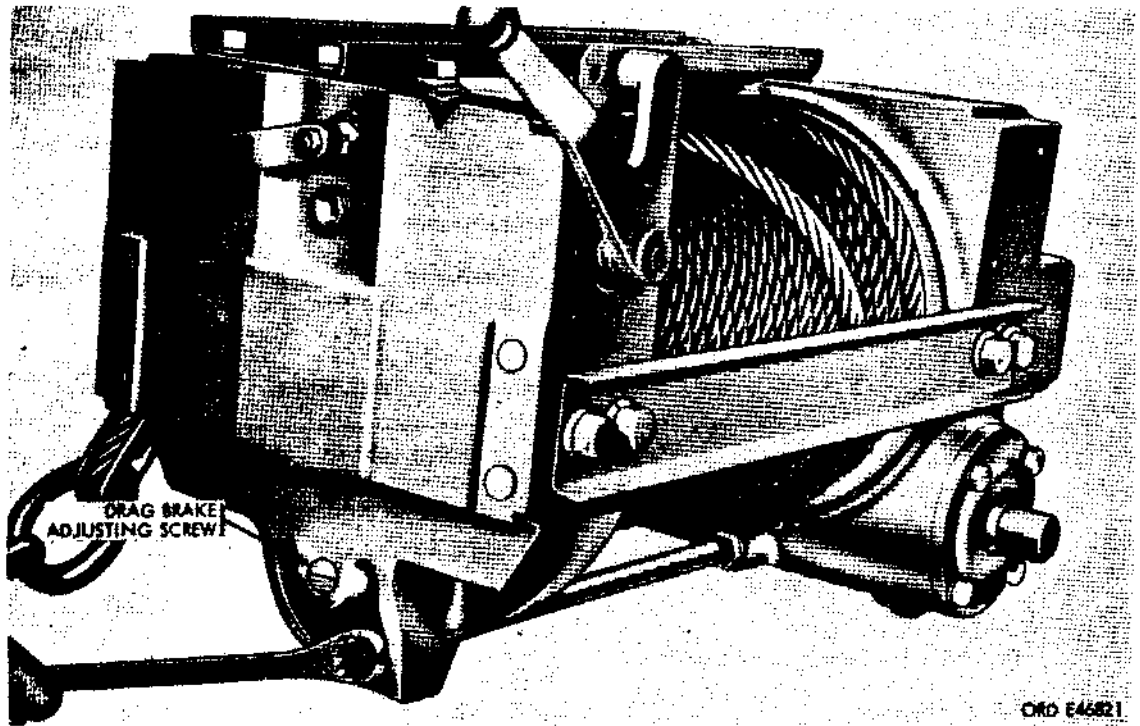

Figure 51. Drag brake adjusting screw
b. Adjustment. To increase braking action of drag brake, turn adjusting screw (fig. 51) clockwise. Test adjustment as in a above.